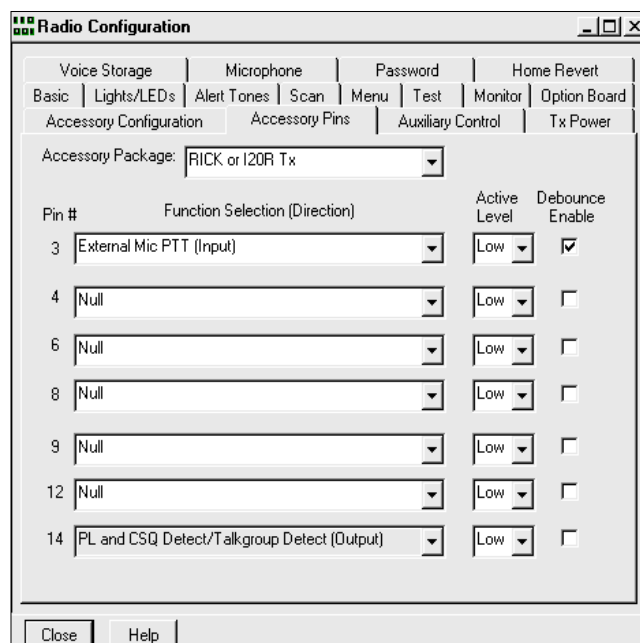

Figure 8-10. Basic (R*I*C*K) Bi-directional Repeater, Accessory Pins, Receive Radio
11. Click the “Pin # 14” down arrow button. Select “PL and CSQ Detect/Talkgroup Detect (Output)”, Active Level “Low”. Your screen should appear similar to Figure 8-10.